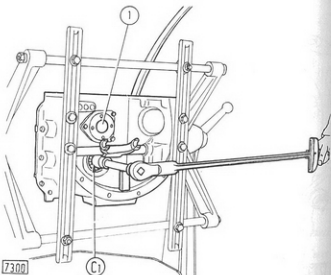

Fig. 117 - Tightening the Layshaft Retaining Nut using a Torque Spanner
- Retighten layshaft retaining nut (C₁, Fig. 117) to the specified torque: the operation is made easier if performed after main shaft refitting, with two speeds engaged at the same time.